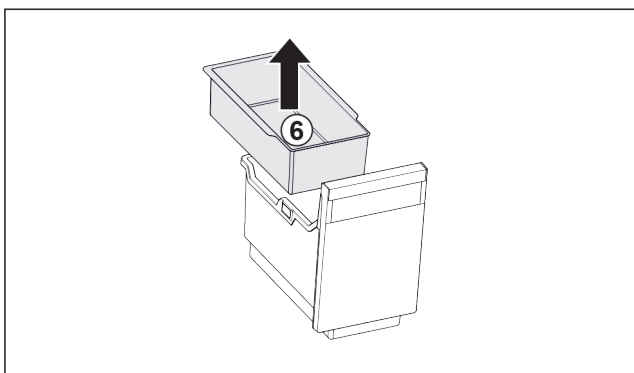

Fig. 90
- ▶ Remove the hang-on tray Fig. 90 (6).